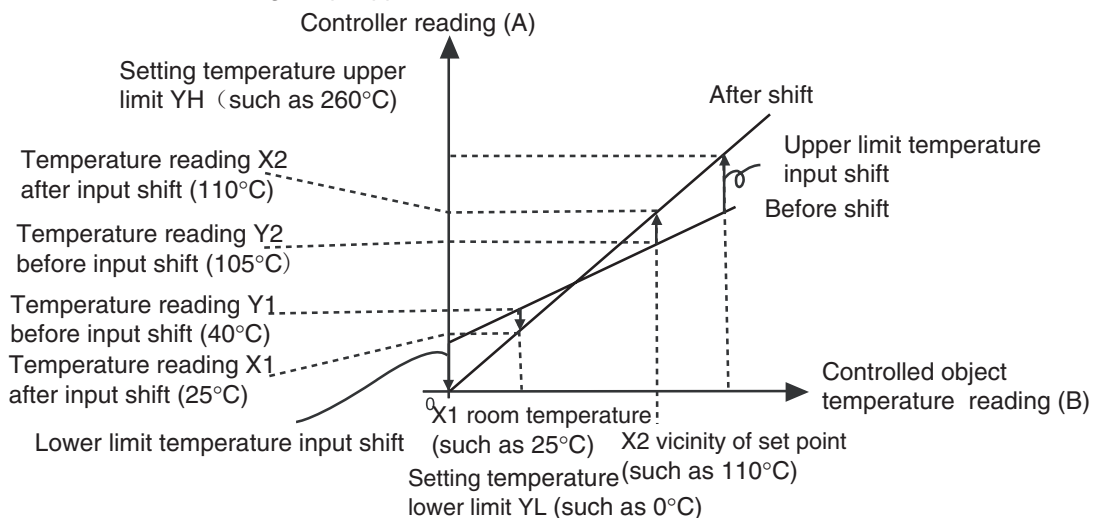

figure 3 2 Point Temperature Input Shift
- (1) To shift two points of the controller's reading, use two points near room temperature and the controlled temperature of the controlled object. Therefore, set the controlled object's temperature settings near room temperature and the set point, then check the controlled object's temperature (B) and controller reading (A).
- (2) Use the reading and temperature shift values from step 1, as well as equations (1) and (2), to calculate the upper and lower limit temperature input shift values. figure 3 shows the results of the 2 point temperature input shift.